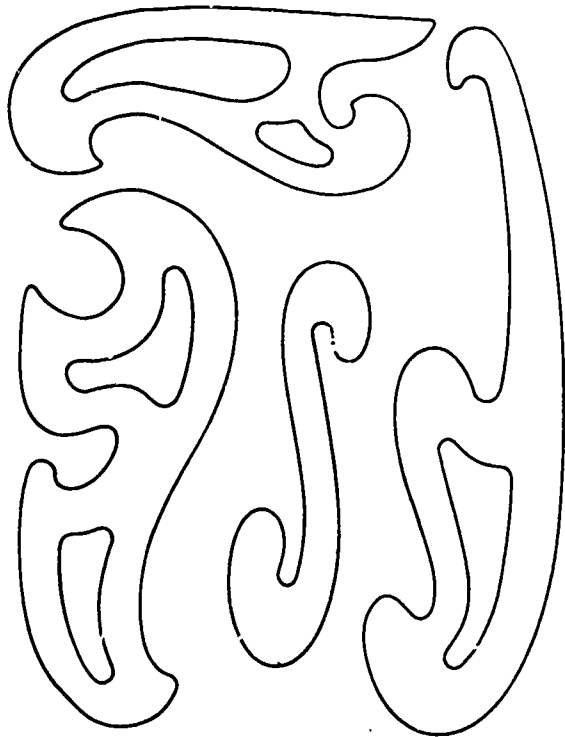

Figure 2-15. Irregular curves.
**Irregular Curves.** These curves are used to draw curved lines which are not segments of circles. They are made of metal or of transparent plastic and come in various shapes, some of which are shown in figure 2-15. The patterns for these curves are laid out in ellipses and spirals or other mathematical curves in various combinations.